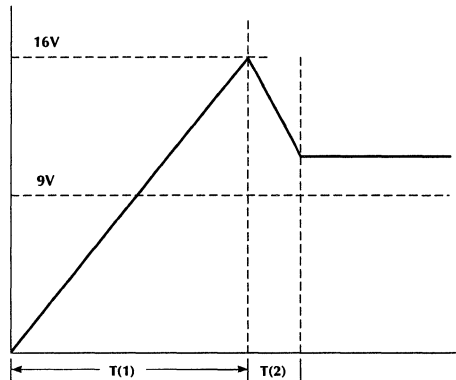

Figure 14. Typical Off-Line Start-Up Circuit and Timing.
In the circuit in Figure 14, the ML4809 remains in a low quiescent drain (1.1mA) during T1 while C1 charges through R(S) to 16V. After V_{CC} rises to 16V the ML4809 begins running. C1 provides the energy needed to run the gate drive and ML4809 until the auxiliary winding can provide sustaining energy for the control circuit, preventing C1 from draining below the 9V lockout threshold. The 7V of hysteresis in the Undervoltage Lockout circuit allows the ML4809 to start from a bleed resistor/capacitor easily. While the ML4809 is in the standby (Lockout) condition, OUTA and OUTB will be pulled low.